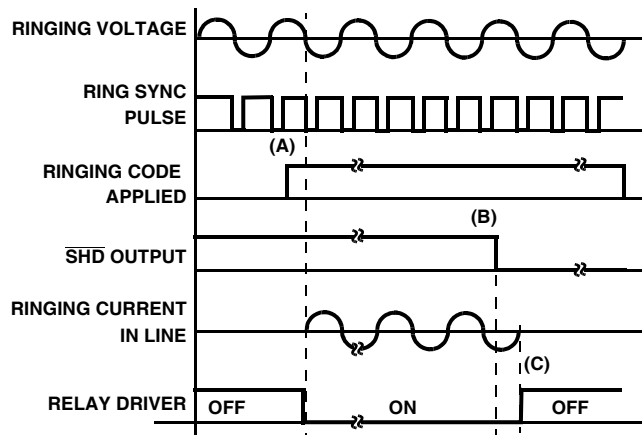

FIGURE 19. RINGING SEQUENCE
Figure 19 shows the sequence of events from ringing the phone to ring trip. The ring relay turns on when both the ringing code and ring sync pulse are present (A). $\overline{\text{SHD}}$ is high at this point. When the subscriber goes off hook the $\overline{\text{SHD}}$ pin goes low and stays low until the ringing control code is removed (B). This prevents the $\overline{\text{SHD}}$ output from pulsing after ring trip occurs. At the next zero current crossing of the ring signal, ring trip occurs and the ring relay releases the line to allow loop current to flow in the loop (C).